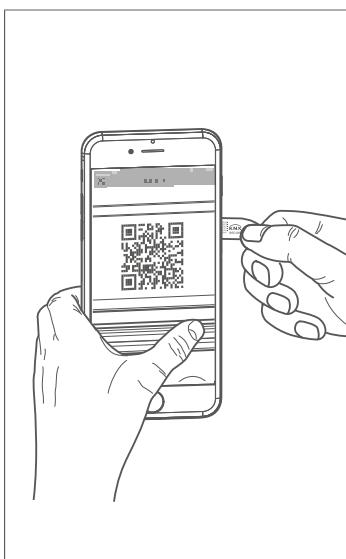
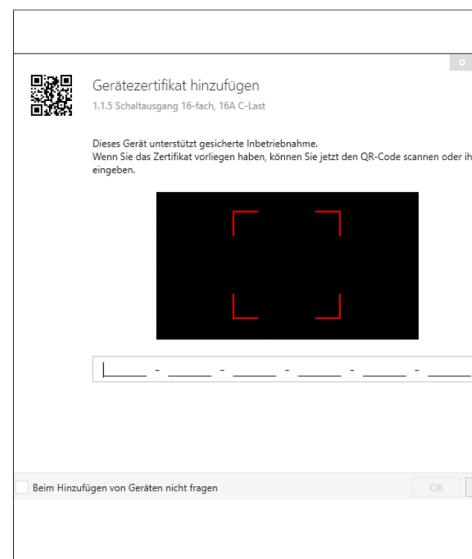

Fig. 14: Scanning the QR code
Fig. 15: Entering the QR code manually
- ① Activate safe commissioning mode in ETS.
- ② Enter the device certificate (QR code) (Fig. 15), scan it (Fig. 14) or add it to the project in ETS.